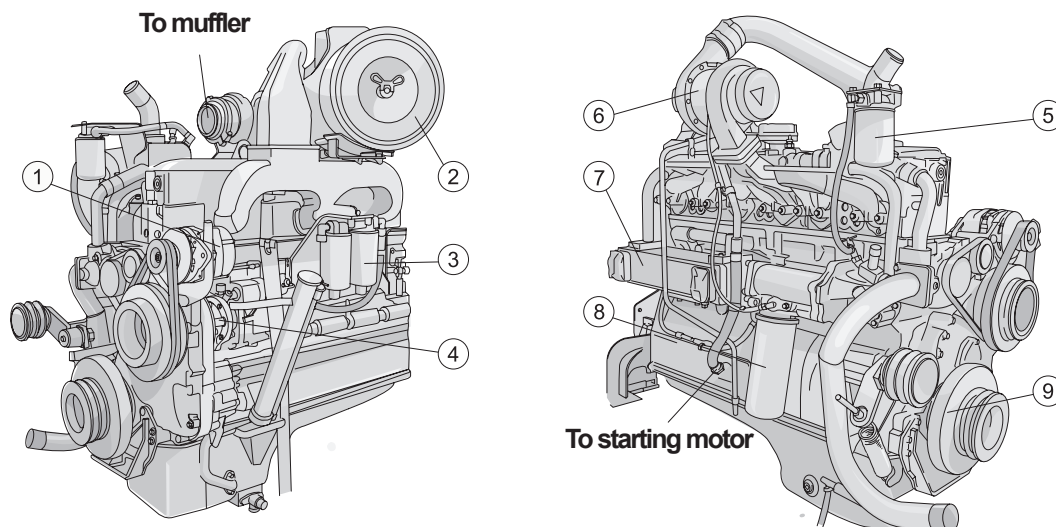

Figure 3-5
3.2.1 ENGINE APPEARANCE (SEE FIGURE 3-5,3-6)